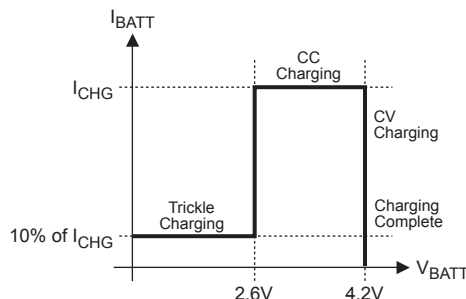

Figure 2—MP26053 Typical Charging Profile
Figure 2 shows the typical charging profile for the MP26053. For a fully depleted battery with a terminal voltage lower than 2.6V, the MP26053 will start with the trickle charge (preconditioning) at 10% of the full charge current based on the value of R_{CHG} . If the charger stays in trickle mode longer than 32768 cycles, \overline{CHG} becomes high impedance, indicating a battery fault. After the battery voltage reaches 2.6V, the charger begins charging using the programmed charge current (I_{CHG}). This is referred to as Constant Current (CC) mode. Once the battery voltage reaches 4.2V, the charger will operate in the constant voltage (CV) mode until the battery is fully charged. The charge current drops during CV mode, and the battery full indication is set when the charge current is reduced to 10% of the programmed constant current value (I_{CHG}). The charge process is then terminated. Recharge will start after the battery voltage is reduced to 4.0V. After 262144 cycles of continuous charging, if the battery still has not reached 10% of the I_{CHG} condition, the on-chip timer will terminate the charger to prevent charging the dead battery excessively and the fault condition will be flagged by flashing the \overline{CHG} LED.